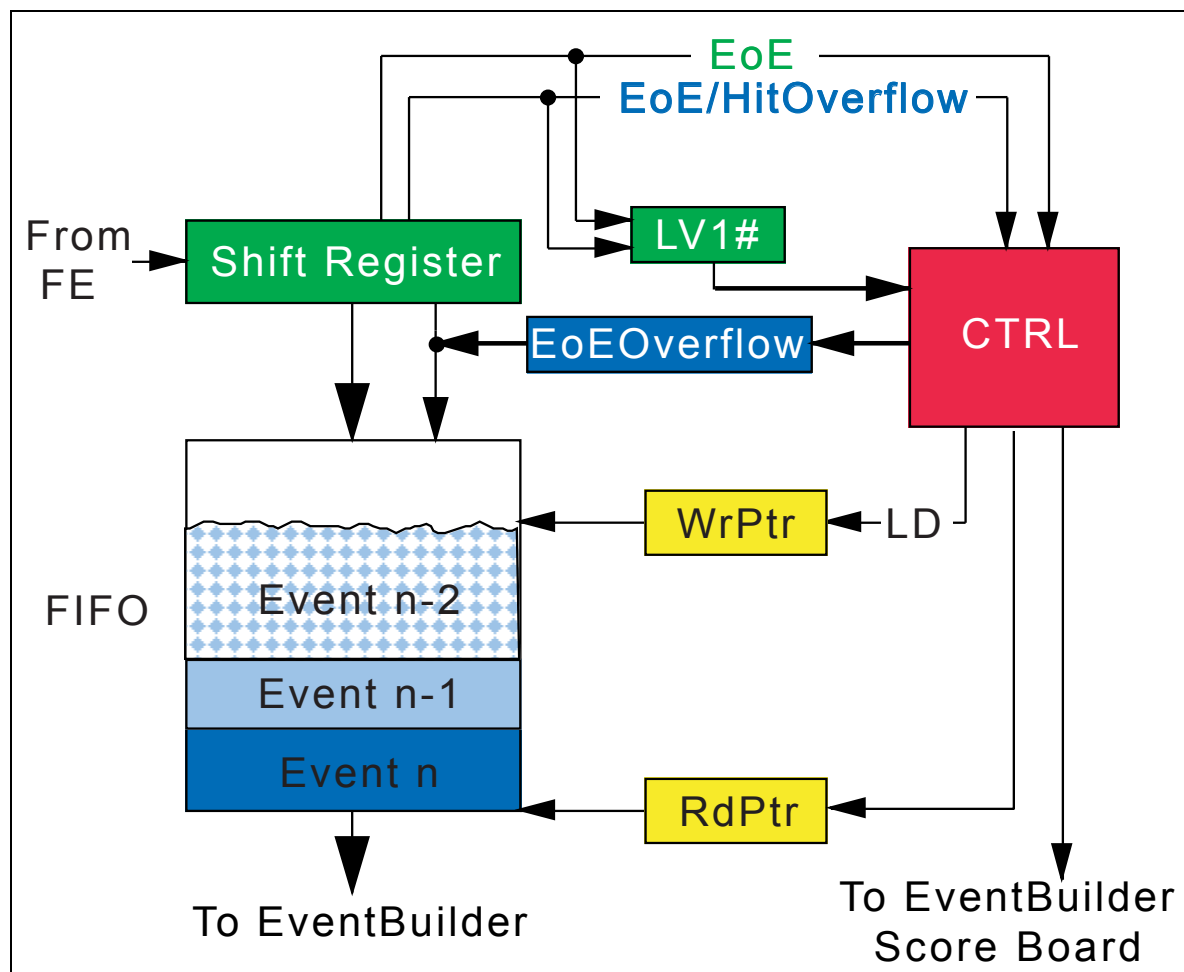

Figure 3-2 Event R/O by MCC: Front-End Receiver and input FIFO.
- Fig. 3-2** *p. 4* Event R/O by *MCC*: Front-End **Receiver** and input **FIFO**.
The block diagram of Figure 3-2 is an expanded view of one of the sixteen **Receivers** present in the **MCC**. As we can see the **Receiver** is composed by three main building blocks, the receiving **ShiftRegister**, the FIFO and the **ControlStateMachine** that deals with Warning conditions and FIFO pointer management.
As can be seen in Figure 3-2 the FIFO has two different pointers, one write pointer (WrPtr) and a read pointer (RdPtr). Both pointers are dealt with inside the ControlStateMachine.